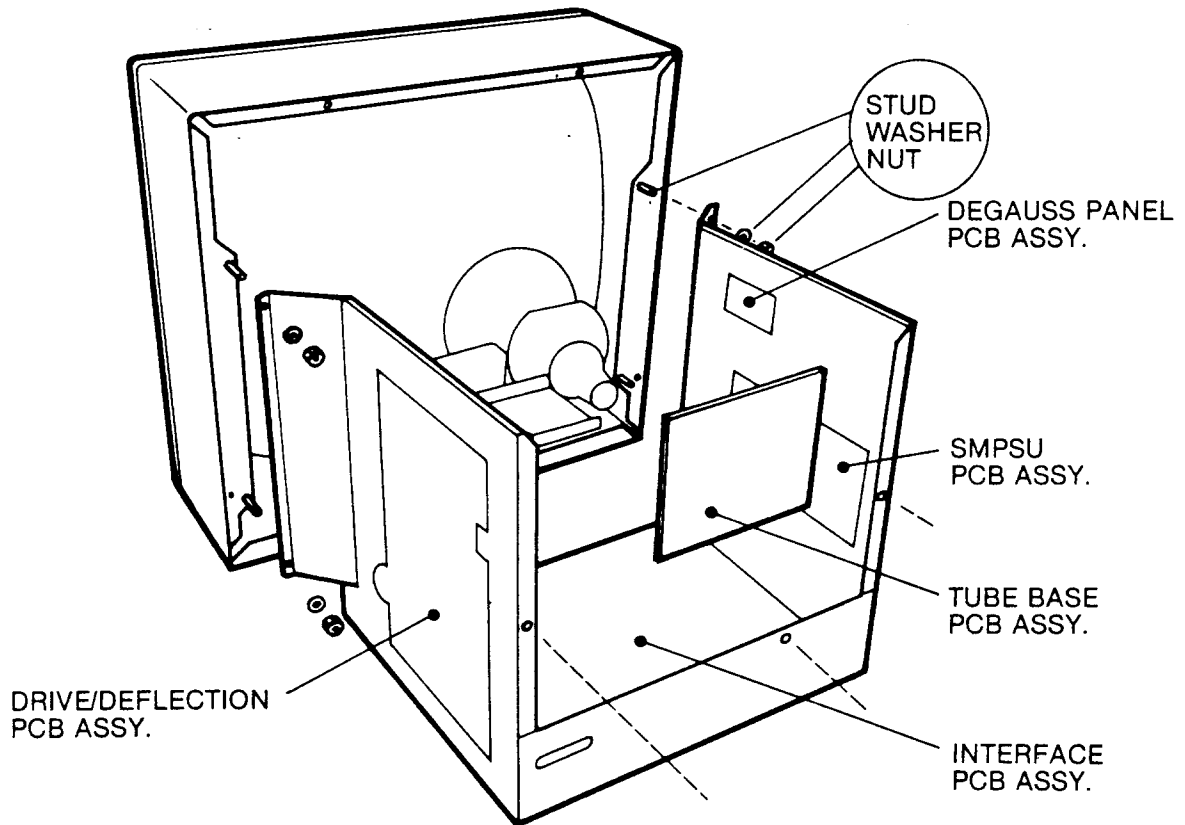

FIG E4 E SERIES PCB LOCATIONS
6. Detach four Fixing Nuts and four Washers from the cabinet/chassis fixing studs, (shown in Figure E4, E Series: Main Chassis/Cabinet Assembly).